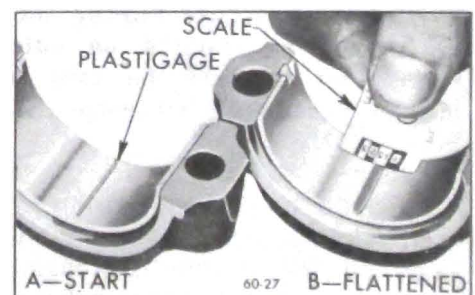

Figure 60-225--Checking Bearing Clearance with Plastigage
2. Place a piece of Plastigage lengthwise along the bottom center of the lower bearing shell (Figure 60-225, View A), then install cap with shell and tighten bolt nuts to 35 lb. ft. torque. (350 Cu. In.) and 45 lb. ft. (400 and 430 Cu. In.)
5. Using the scale printed on the Plastigage envelope, measure the flattened Plastigage at its widest point. The number within the graduation which most closely corresponds to the width of Plastigage indicates the bearing clearance in thousandths of an inch. See Figure 60-225, View B.